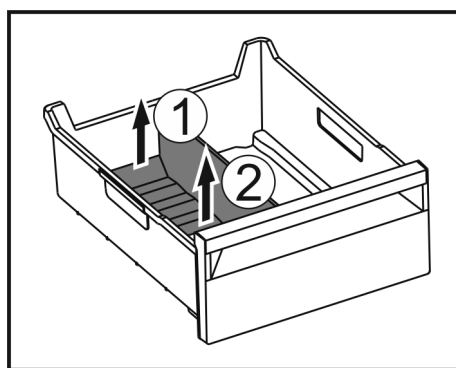

Fig. 168
- Lift the rear part of the ice compartment divider. Fig. 168 (1)
- Remove the ice compartment divider upwards. Fig. 168 (2)